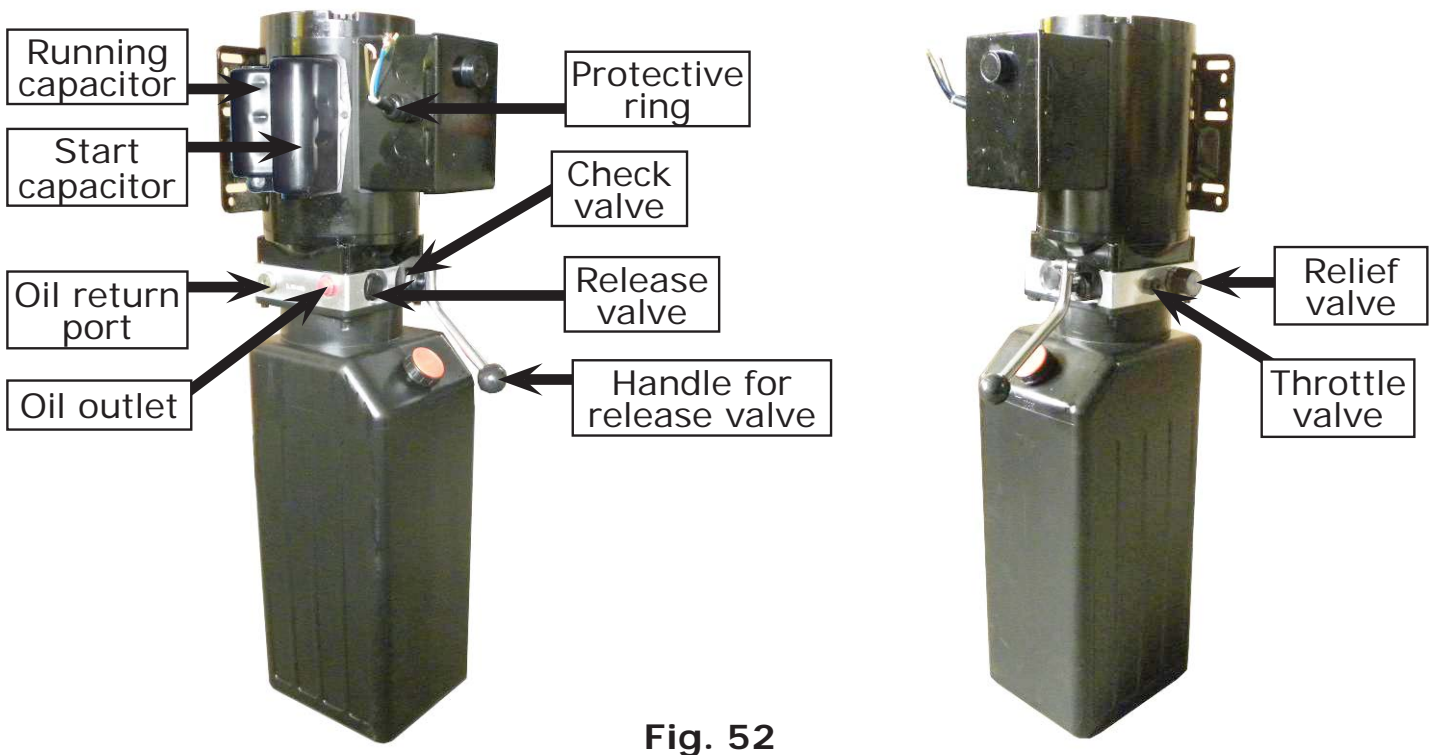

Fig. 52
2. ATLAS manual power unit, 220V/60HZ, Single phase (See Fig. 52).